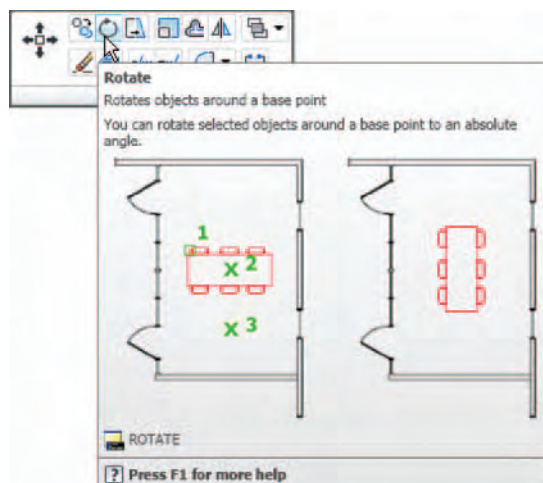

Fig. 5.26 The **Rotate** tool icon from the **Home/Modify** panel
2. Call **Rotate** – left-click its tool icon in the **Home/Modify** panel (Fig. 5.26), pick its tool icon from the **Modify** toolbar, pick **Rotate** from the **Modify** drop-down menu, or enter **ro** or **rotate** at the command line. The command line shows: